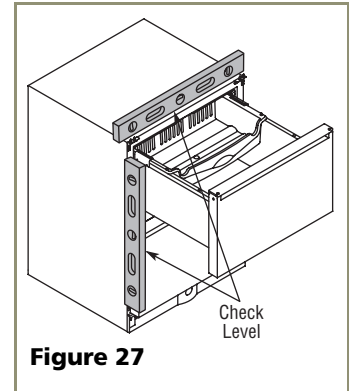

Figure 27
1. Use a level to check the levelness of the unit from front to back and from side to side. Level should be placed along top edge and side edge as shown (see **Figure 27**).